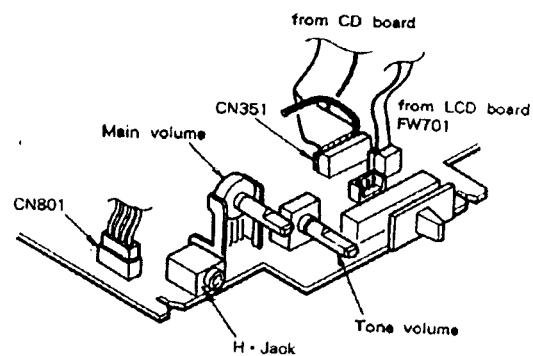
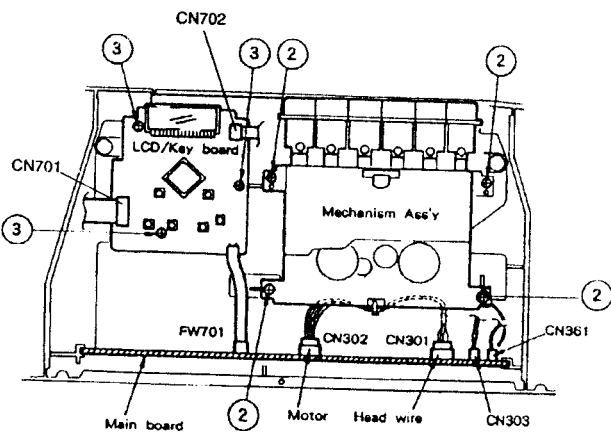
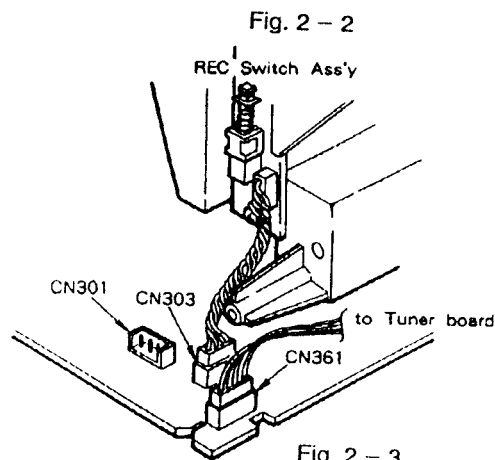

Fig. 2-1-2
Fig. 2-2
Fig. 2-3
- 4) Remove the speaker wire connector (CN801) from the main board ass'y. (See Fig. 2-1-2)
◆ Mechanism ass'y (See Fig. 2-2)
◆ LCD board ass'y (See Fig. 2-1-2 and Fig. 2-2)
◆ CD unit (See Fig. 2-1-2 and Fig. 2-3)
- 2) Remove the CD connector (CN351) from the main board ass'y. (See Fig. 2-1-2)